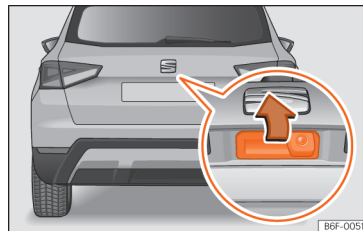

Fig. 8 Rear lid: handle
The rear lid opening system operates electrically*. It is activated by exerting slight pressure on the handle »» Fig. 8.
- Open the rear lid: exert slight pressure on the handle »» Fig. 8. The rear lid opens automatically.